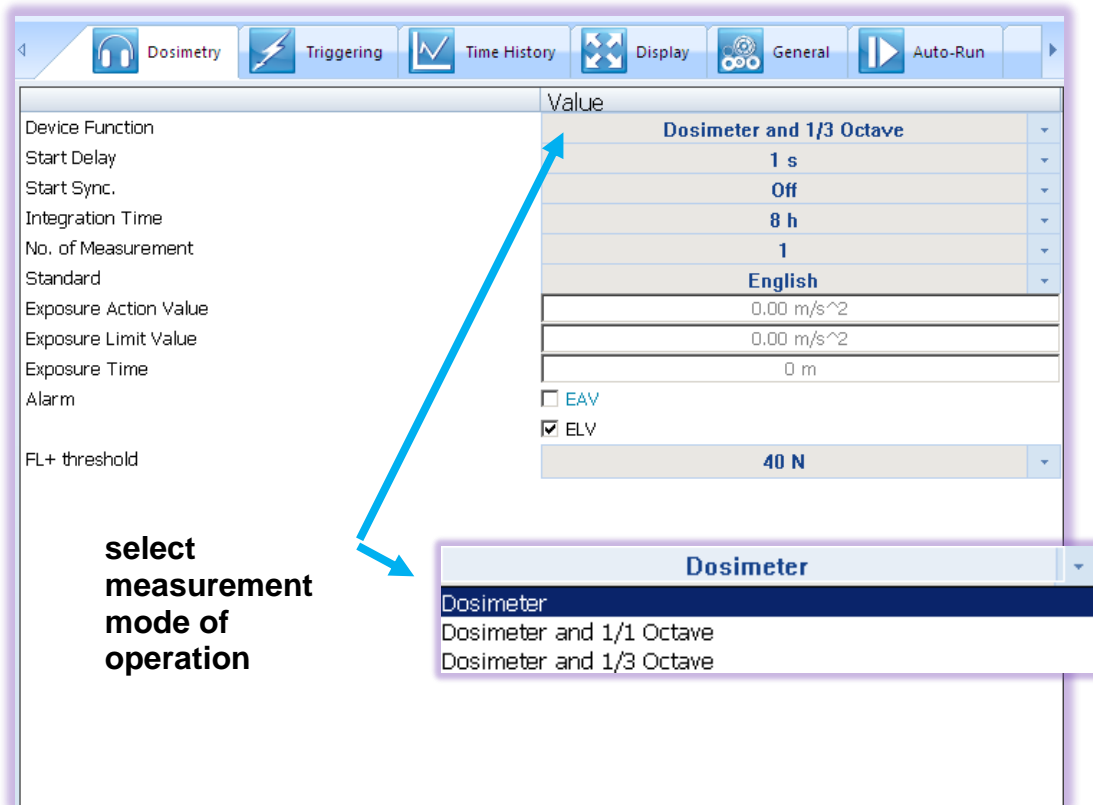

Figure 5-7 Dosimetry configuration settings tab
**Note:** Summary results are saved on “**Integration Period**” basis (not on “**Logger Step**” time). See Figure 5-7 how to set “**Integration Period**” parameter.